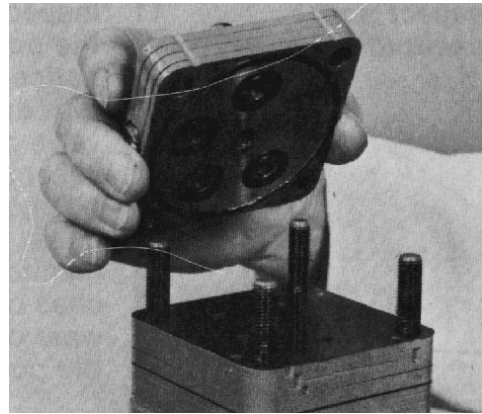

Figure 29
4. Grasp the port cover assembly (four plates bonded together) and lift it from the unit. Remove and discard the four o-rings and seal ring (Fig. 29).